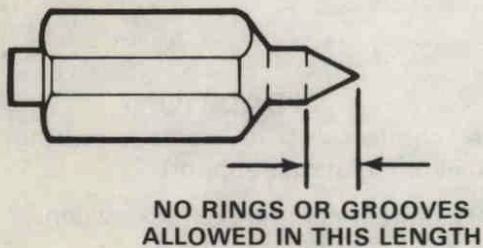

Figure 23. Inspecting Float Needle.
- B. Inspect needle valve face for grooves or rings. Figure 23.